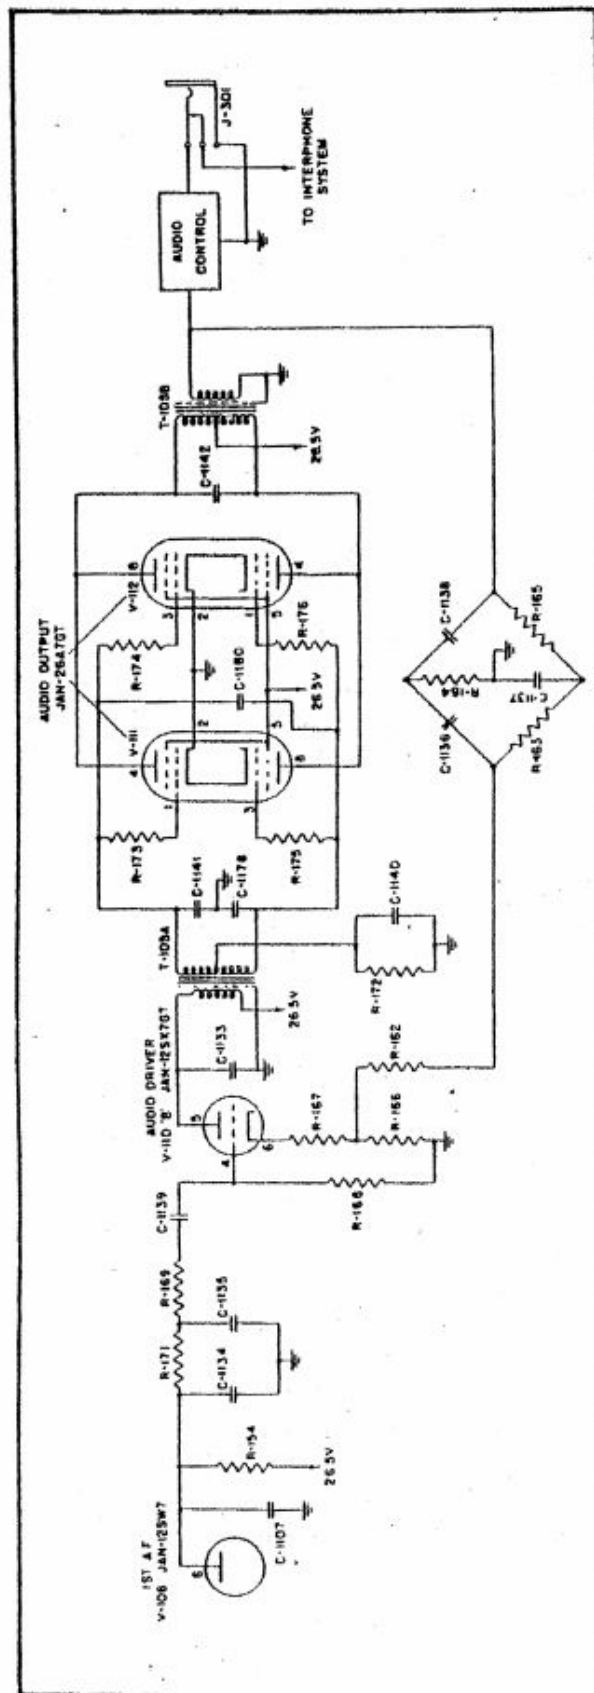

Figure 4-18. Functional Diagram—Audio Driver and Output Circuits of Radio Compass Unit R-101 ARN-6
b. AUDIO DRIVER AND OUTPUT CIRCUITS. (See figures 4-18 and 4-19.)
(1) The audio signal appearing at the triode plate of the first AF amplifier, V-108 is filtered of residual IF through the network C-1134, R-171, C-1135, and R-169. It is capacitance-coupled to the grid of the audio driver, V-110B (in R-101 ARN-6) or V-110A (in R-101A ARN-6).
(2) The output of V-110B (in R-101 ARN-6) or V-110A (in R-101A ARN-6) is transformer-coupled by T-105A to the audio output stage, which is two tubes, V-111 and V-112, in push-pull parallel. The grid resistor for this stage, R-172, is connected from the center tap of the input transformer secondary to ground, and is bypassed by capacitor C-1140. From each end of the secondary there is a capacitor connected to ground, C-1141 and C-1178; these capacitors bypass the audio frequencies beyond the useful range, to prevent squealing which might otherwise occur.
(3) V-111 and V-112 are beam power tubes, and especially designed for operation with 26.5v on the plates. Operation of the tubes is class AB₁, inasmuch as the plate current, in normal operation, is reduced to a residual value, not cut-off, but for practical purposes equivalent to it. Grid current flows so that the proper grid bias is developed across R-172 and C-1140. Thus, an automatic bias is developed which varies with the signal level and maintains the average operation